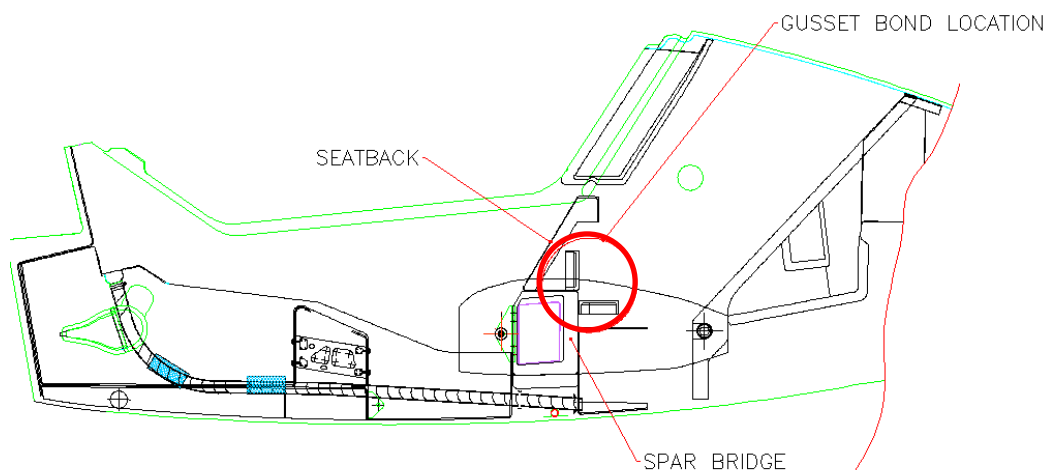
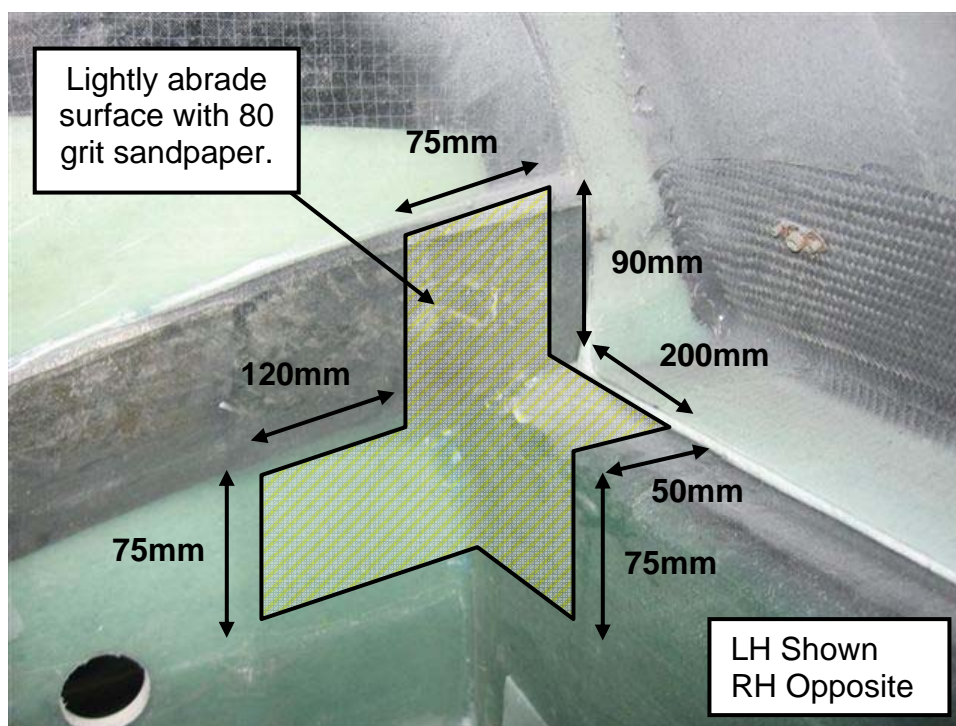

Figure 1 – Reference Repair Location
Figure 2 – Gusset Bonding Area – View Of LH Upper AFT Spar Bridge
- 10.5 Prepare area shown in Figure 1 / Figure 2 for bonding by abrading surface with 80 grit sandpaper. **Do not sand into the glass cloth.** Clean surface with isopropanol and wipe off immediately.